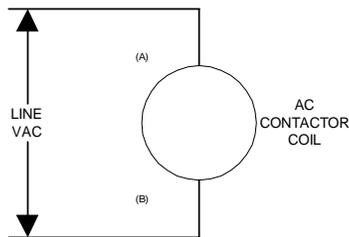
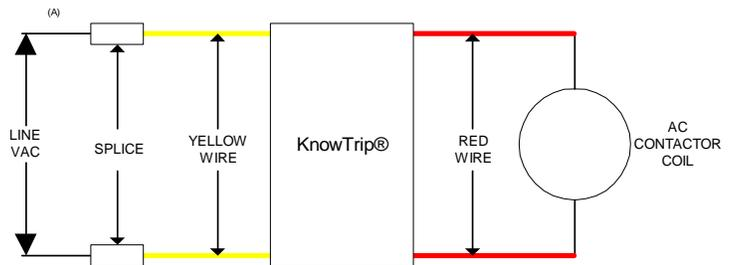
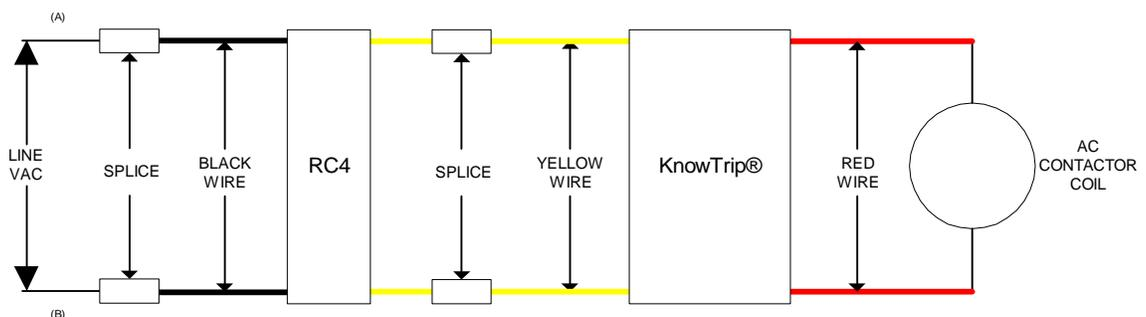

Figure 1: Contactor without KnowTrip®
Figure 2: Contactor with KnowTrip®
Figure 3: Contactor with RC4 and KnowTrip®
- I4. Remove incoming power wires A and B (see Figure 1) from the contactor coil and attach them to the black wires from RC4 (see Figure 3).
- I6. Remove incoming power wires A and B (see Figure 1) from the contactor coil and attach them to the yellow wires of the KnowTrip® (see Figure 2).